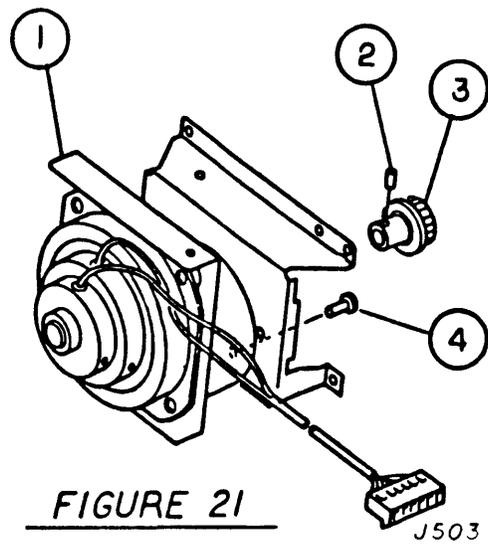

FIGURE 21
□ LASERWRITER – MAIN MOTOR ASSEMBLY (Figure 21)